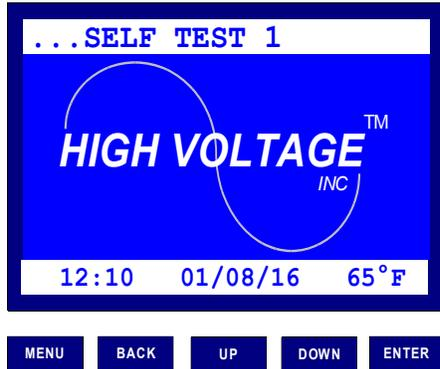

Figure 1.13 – Startup and Self Test
3. The equipment initiates a self-test, Figure 1.13. The Firmware Version is shown, then the Self Tests begin executing. In case of malfunction, an error message is displayed and the system will be halted (see section 1.3.5).